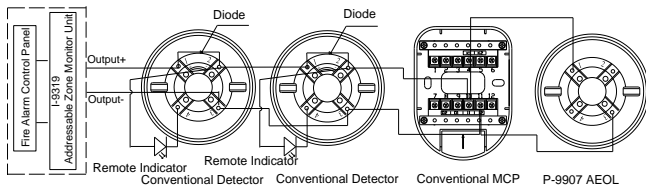

Fig. 4
- 1) Used as the detector base, the AEOL is to install a conventional detector on it. The system connection is shown in Fig. 4.